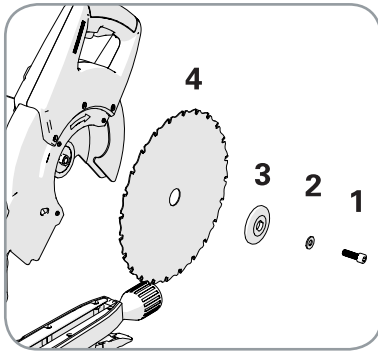

Fig. 40
- Using the supplied Hex Key, release the arbor screw and remove the washer and blade flange and the blade from the arbor. (Fig. 40)